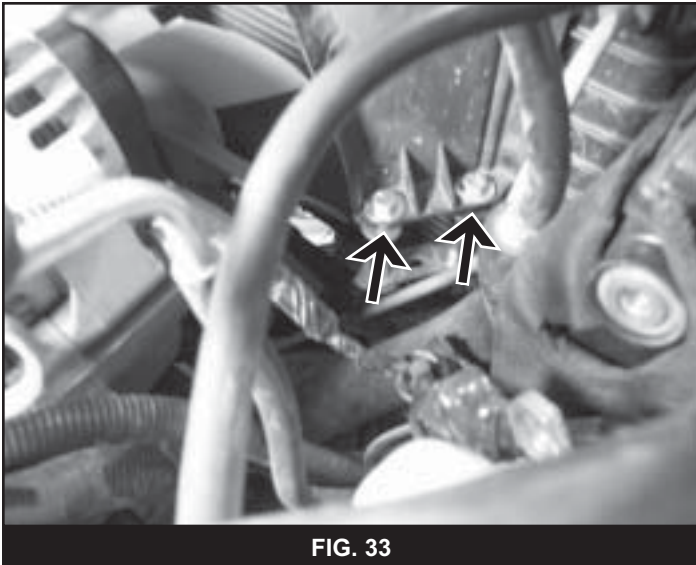

FIG. 33
75. Attach the lower fan shroud to the upper fan shroud with four spacers, four 3/8" x 3-1/2" bolts, nuts, and sixteen 3/8" USS washers. The washers mount on both sides of the shroud flange to "sandwich" the plastic (Fig 33).